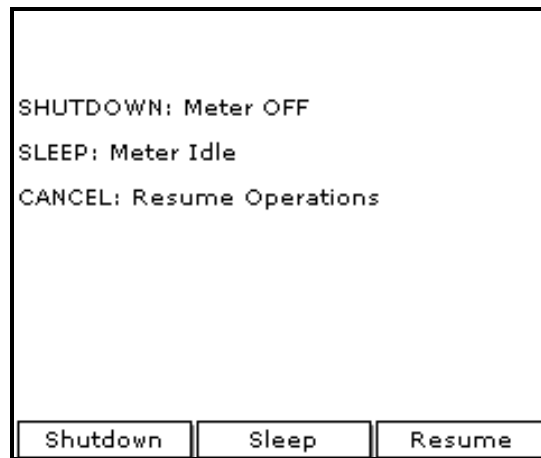

Figure 2: Shutdown Menu
1. To turn the PM880 AC off, press the red key for 3 seconds. The screen now appears similar to Figure 2. Press **[F1]** to shut down the PM880 AC.